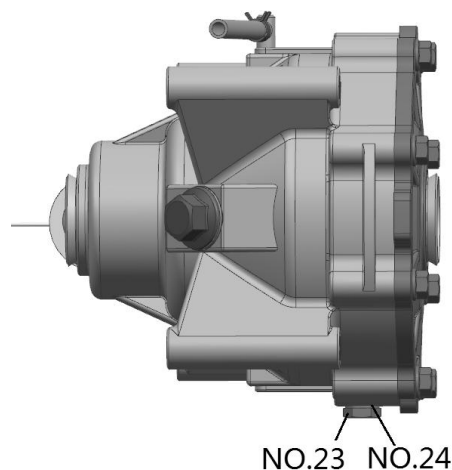

Fig 1
Important: Clean the plug carefully. Replace the sealing washer (NO.24) before it's assembled. →Fig 1
3.Remove the differential solenoid (NO.14) from the gearcase cover if servicing the solenoid, shift lever, shift lever spring, or shift yoke. If none of these items are being serviced. The solenoid can remain installed in the gearcase cover. →Fig 1